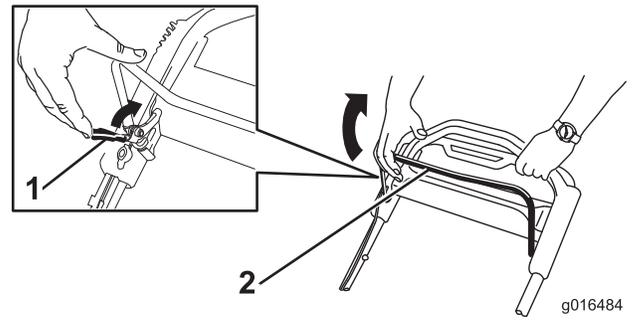

Figure 23
2. **Slowly** pull the blade-control bar back to the handle (Figure 23).
1. Pull the blade-control-bar lock back to the blade-control bar (Figure 23).